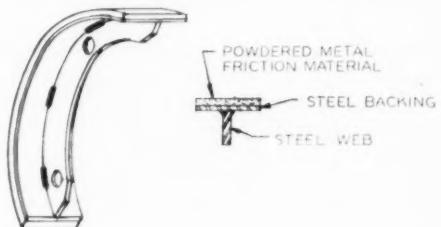

FIG. 13 INTEGRAL SHOE
*Integral Shoes.* This application, Fig. 13, is similar to that of integral bands, except that, in this case, webs can be welded to a curved piece of bimetallic lining, forming a rigid shoe. The webs can be blanked from sheet metal and will contain the anchor-pin holes. Often a complete shoe of this kind can be produced for little more than the cost of making the rivet-on type lining, thereby saving the expense of a separate shoe and assembly.